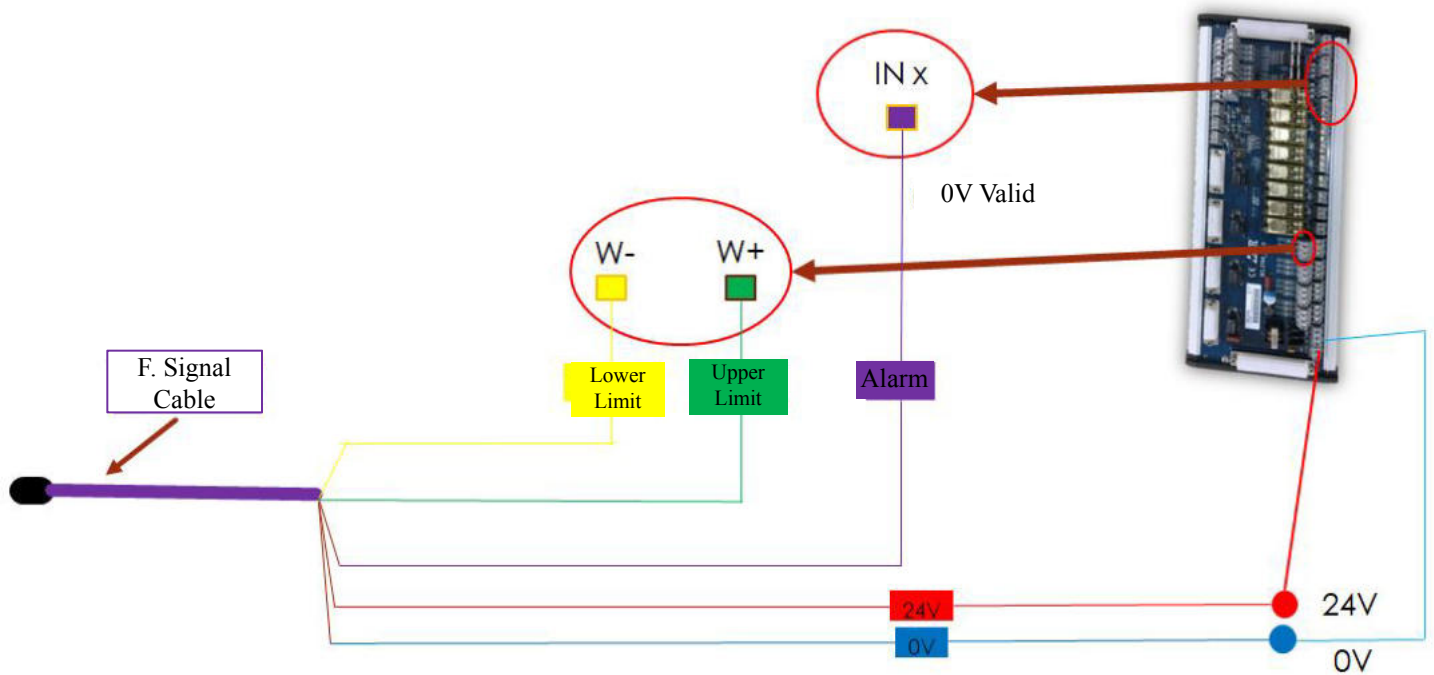

Figure 1.9
③ Signal cable wiring, as shown in Figure 1.9
④ Galvo Scanner Motor Wiring Connection